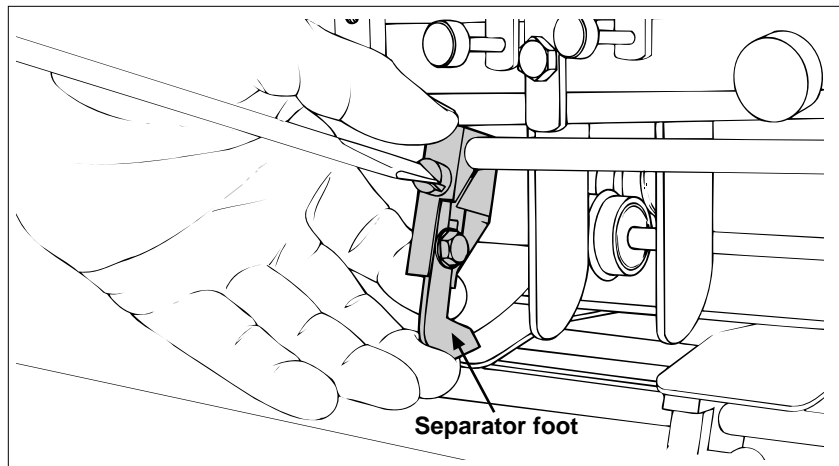

Figure 2-11. Repositioning Separator Foot at Front of Inserter
2. With a screwdriver, loosen the inserter separator foot and tilt away slightly from insert station assembly (opposite feeder) so that foot does not interfere with material being fed (Figure 2-11).